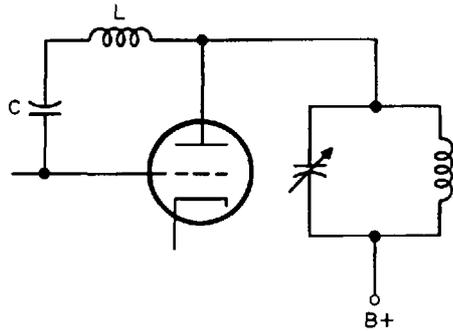

Fig. 39-27. Circuit using direct plate-to-grid neutralization.
and plate of the tube. This is so because of the capacitive effect of plate and grid. If the inductor is carefully chosen, the voltage drop across it will also be *equal* to the voltage drop across the grid and plate. Thus, the two voltages will cancel each other out, and no feedback will result (Fig. 39-27). The capacitor (C) in series with the inductor (L) is used to keep the B+ off the grid of the tube.